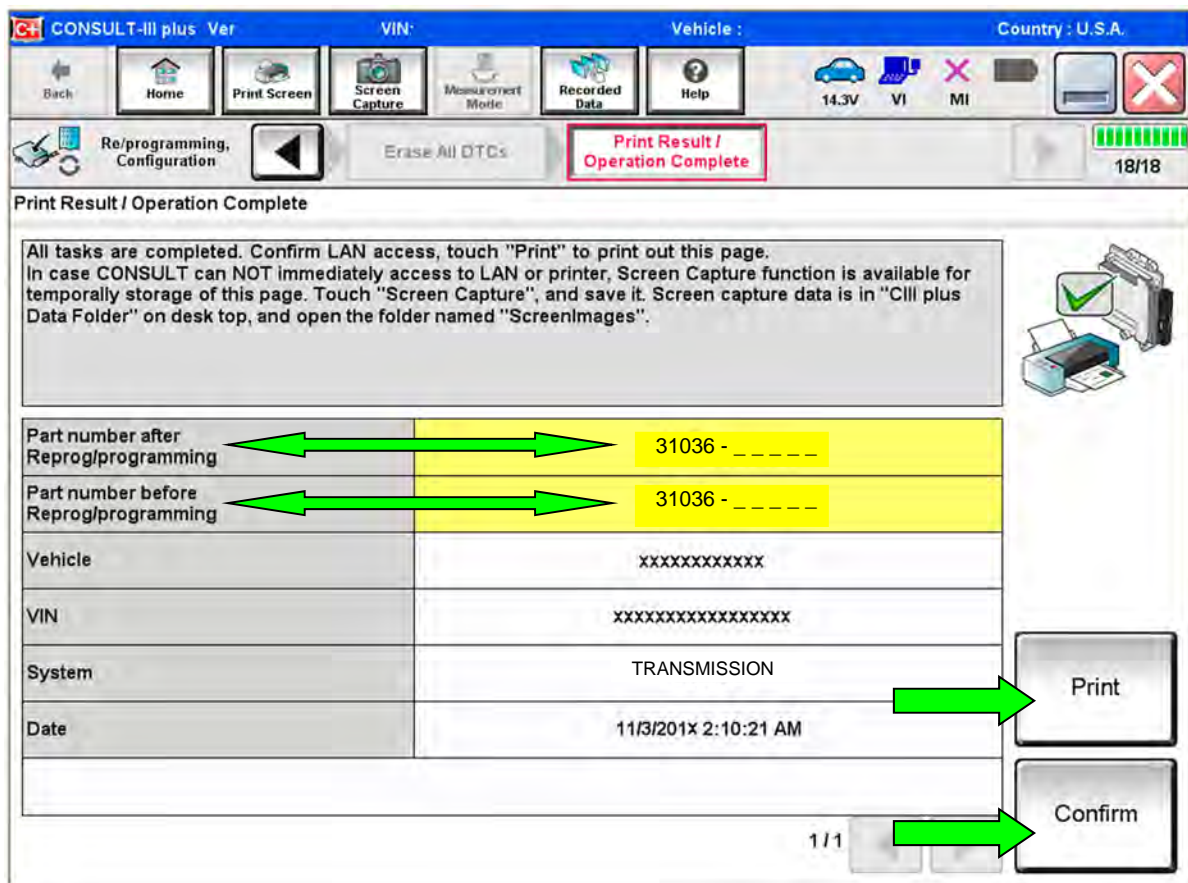

Figure 172
- When the entire reprogramming process is complete, the screen in Figure 172 will display.
147. Print a copy of this screen (Figure 172) and attach it to the repair order for warranty documentation.